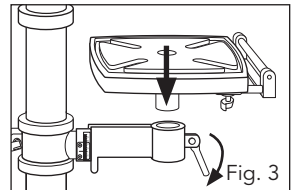

Fig. 3
3. Insert the drill table (4) into the drill table clamp shaft. Clamp the drill table in place by rotating the table lock (32) clockwise (Fig. 3).